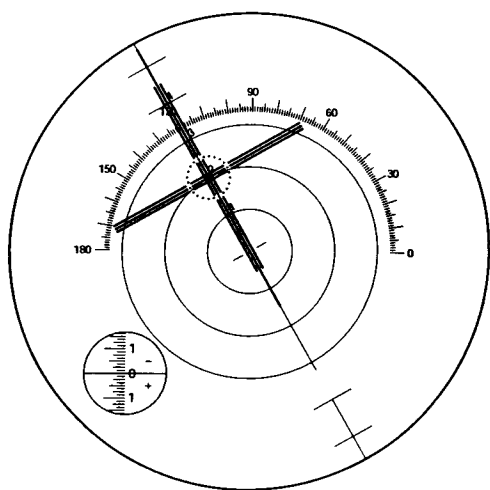

Fig. 7 DECENTERED TARGET
3. Bring the target into focus. Since there is prism power in the lens, the target will be decentered. (Fig.7) The target will always be displaced in the direction of the base of the prism. That is, it will be displaced up for prism base up; down for prism base down. It will be displaced right for prism base in right eye; out for left eye. It will be displaced left for prism base out in the right eye; in for left eye.